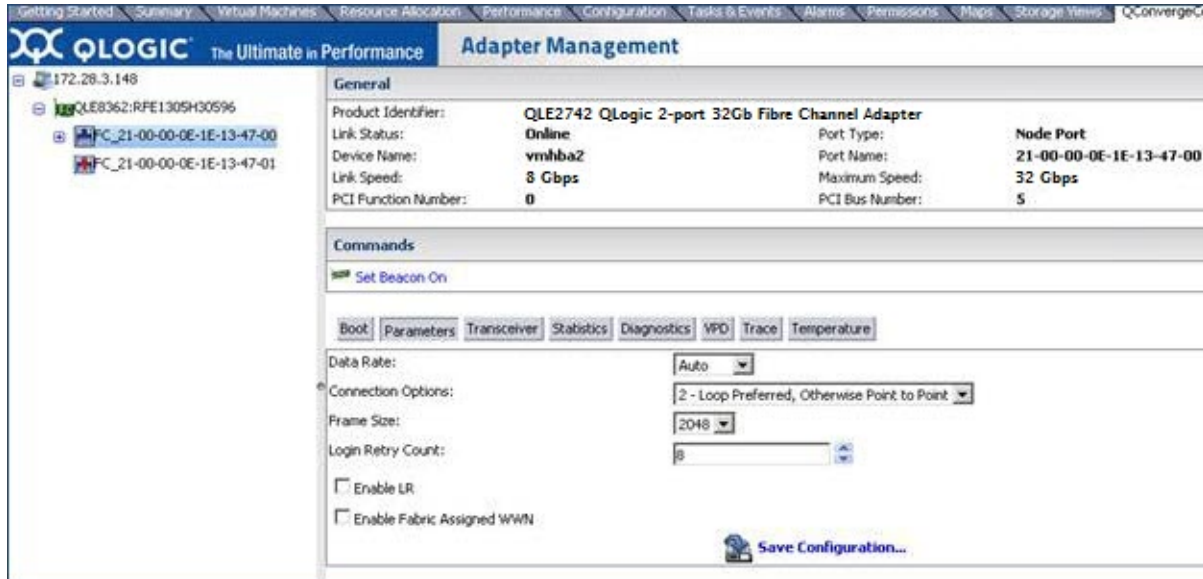

Figure 3-7. Enabling FA-WWPN Using QConvergeConsole vSphere Client Plug-in
4. In QConvergeConsole vSphere Client Plug-in, the parameters appear and can be edited. Figure 3-7 shows an example.